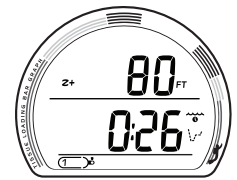

Fig. 15 - PDPS
**PDPS**, information includes (Fig. 15, 16):